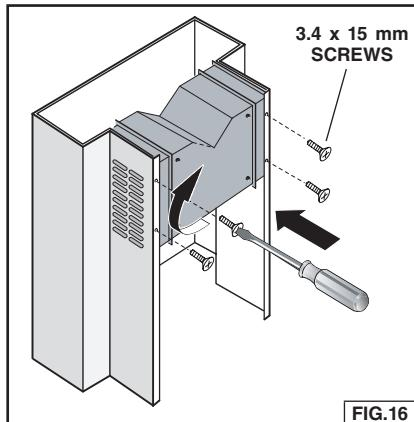

FIG.16
3. Install the plenum to the upper decorative flue using (4) 3.4 x 15 mm screws provided as shown. Fig. 16.